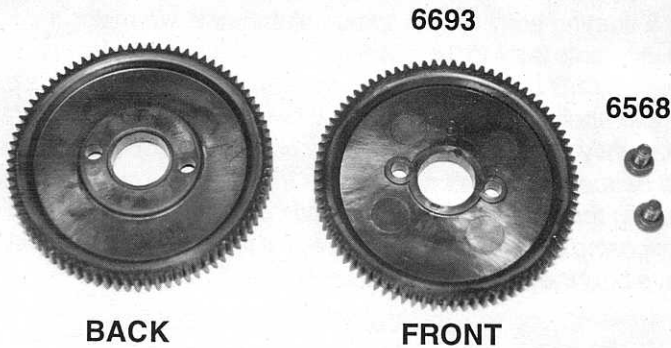

Fig. 66
□ **Fig. 66** Open bag #8-15 and remove the #6693 81 tooth 48 pitch spur gear. From bag F remove the two #6568 4-40 x 3/16" button head socket screws. The photo shows both the front and back side of the spur gear. Mount the spur gear with the back side towards the clutch hub. Line up the two mounting holes of the spur gear with the two mounting holes in the outer clutch hub. Make sure the spur gear is pressed on as far as possible and as evenly as possible before installing the two #6568 screws. Now do your best to tighten the two screws evenly so the spur gear will not try to warp. *Racer's Tip: These screws are subjected to a lot of vibration so make sure you check them for tightness frequently.* Your completed tranny with spur gear installed will look like fig. 66.